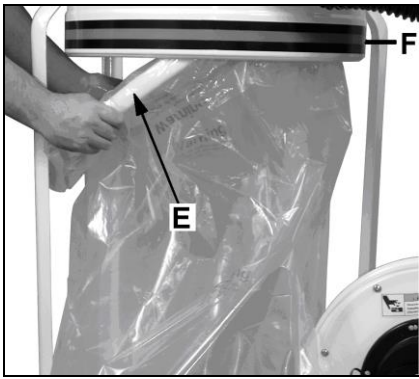

Fig 10
Insert the snap ring (E) of the collector bag into the bottom of the housing at an angle. Pull down until it engages in the groove (F, Fig 10)